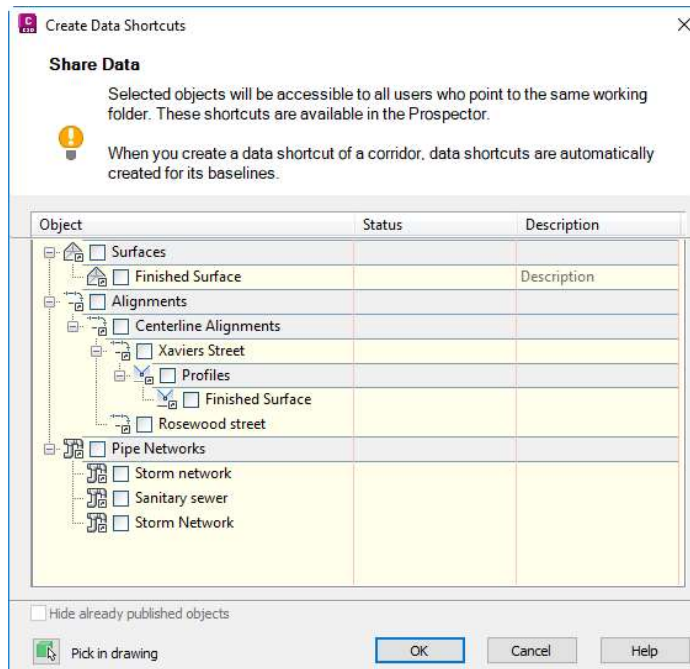

Figure 13-22 Partial view of the **Create Data Shortcuts** dialog box
1. Save the current drawing file. Next, in the **Prospector** tab of the **TOOLSPACE** palette, right-click on the **Data Shortcuts** node and choose **Create Data Shortcuts** from the shortcut menu displayed; the **Create Data Shortcuts** dialog box is displayed, as shown in Figure 13-22.